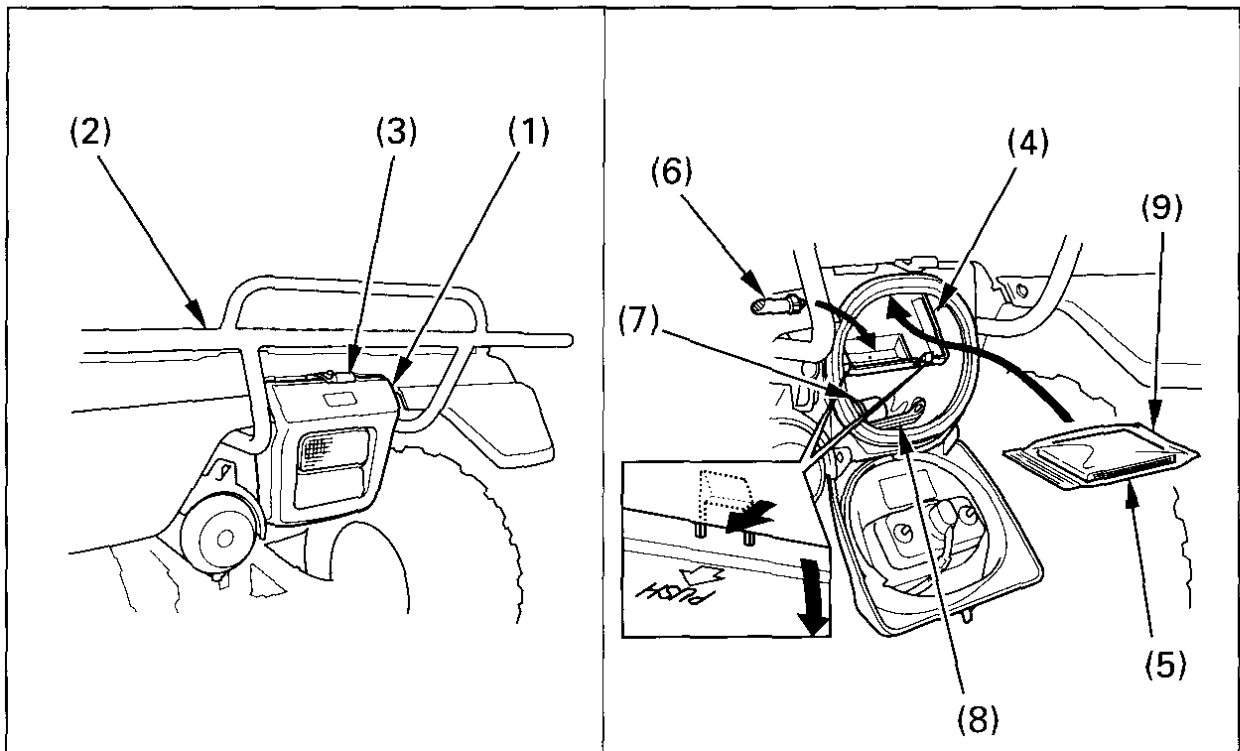

Fig. 2-32
The storage compartment (1) (Fig. 2-32) is below the rear cargo rack (2).